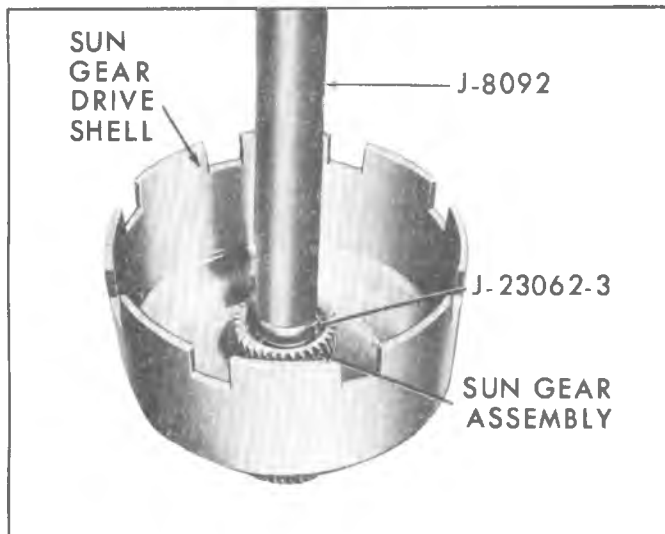

Fig. 94N--Installing Sun Gear Bushings
5. If bushing is to be replaced, refer to Figure 94N.
With sun gear properly supported, remove two (2) sun gear bushing using tool J-23062-3 and drive handle J-8092 with extension J-21465-13. Using tool J-23062-3 and drive handle J-8092, install sun gear bushings to .010" below surface at either end (fig. 94N).